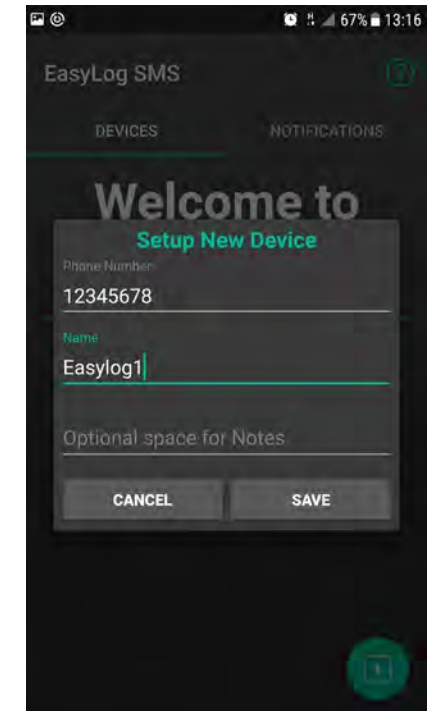

Fig. 2
4. Input the EL-SMS device mobile number. Optionally add a device name and notes regarding the device’s location, use etc. then press “Save” (see Fig. 2).